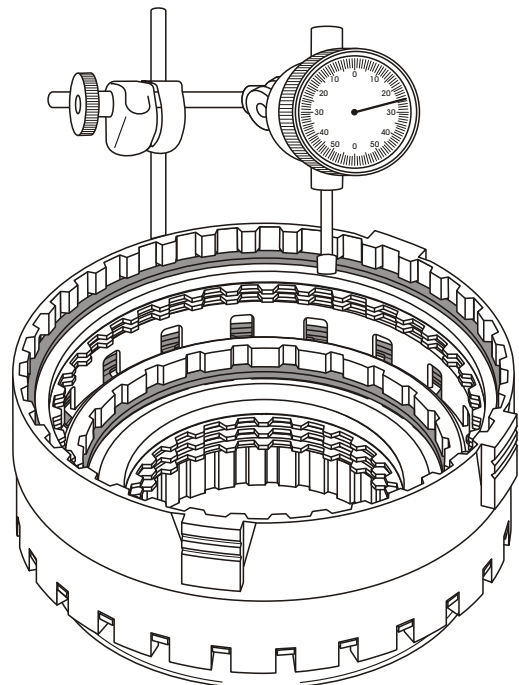

Figure 127
23. Install dial indicator on top of the overdrive clutch backing plate, as shown in Figure 127, and zero the dial indicator.